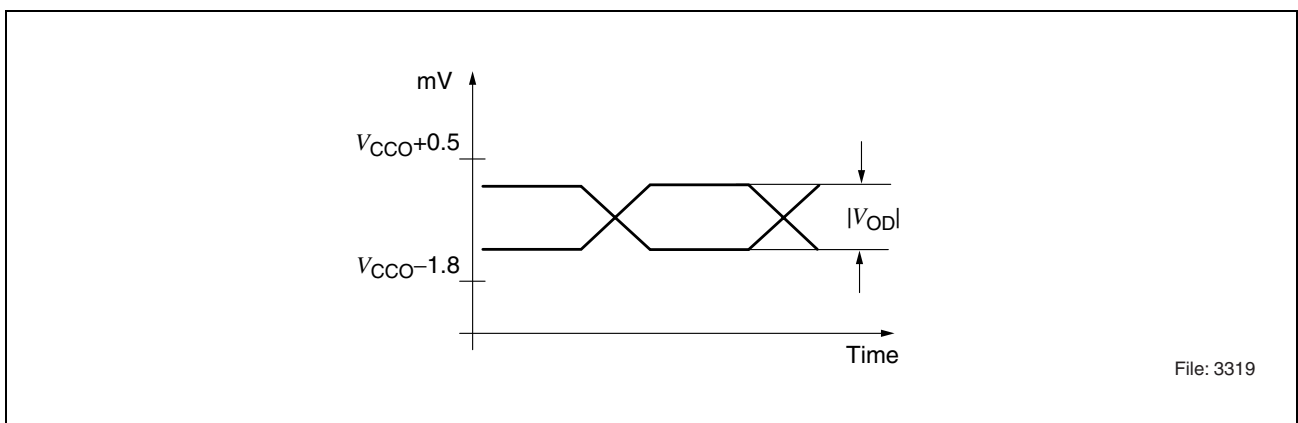

Figure 8 Output Level Diagram, DC-coupling
- ¹⁰⁾ Output level diagram: see **Figure 8** on **Page 16**.